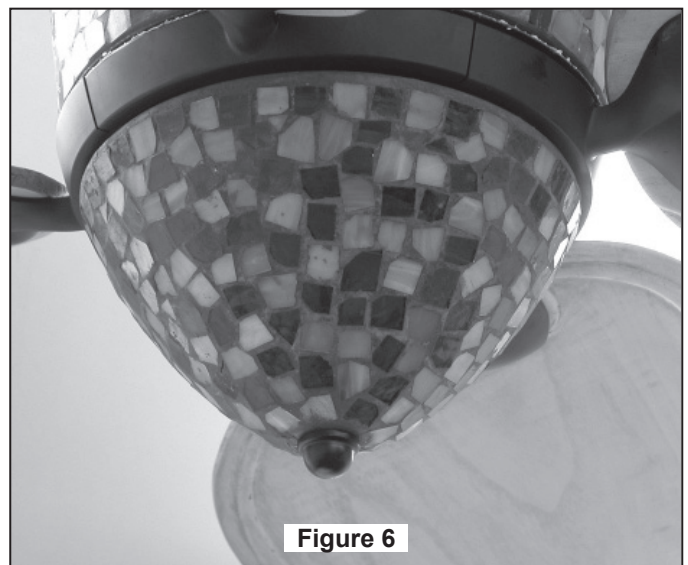

Figure 6
6. Securely attach Lower Glass by tightening the hex nut and final nut supplied with the fan. Don't overtighten. (Figure 6)